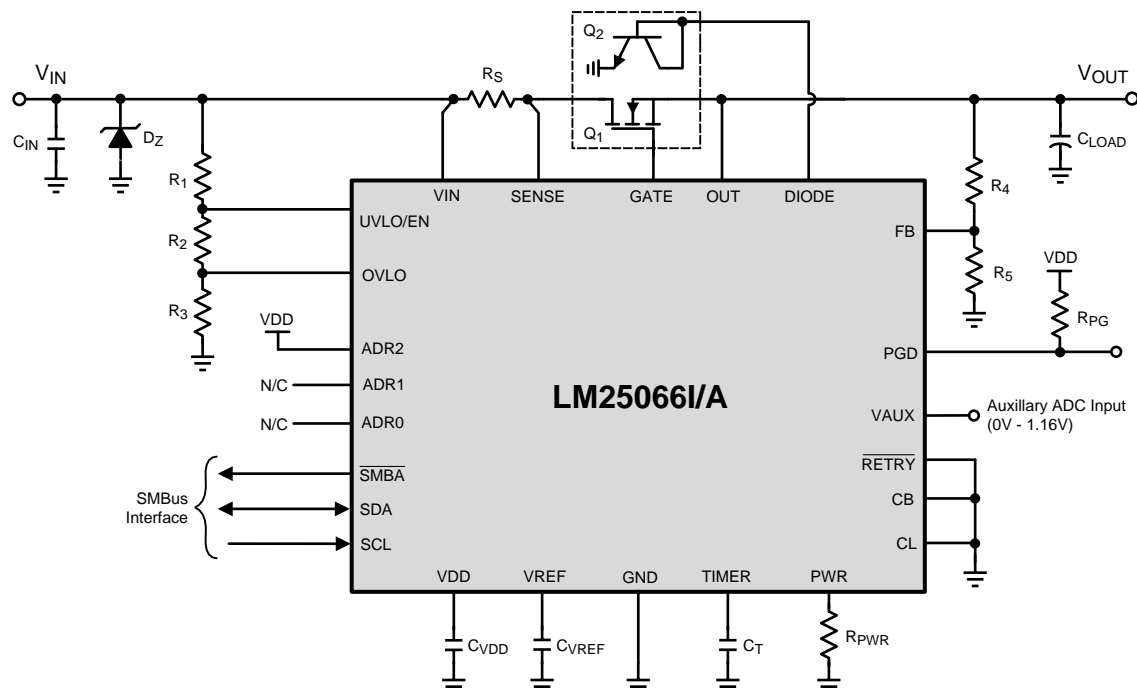
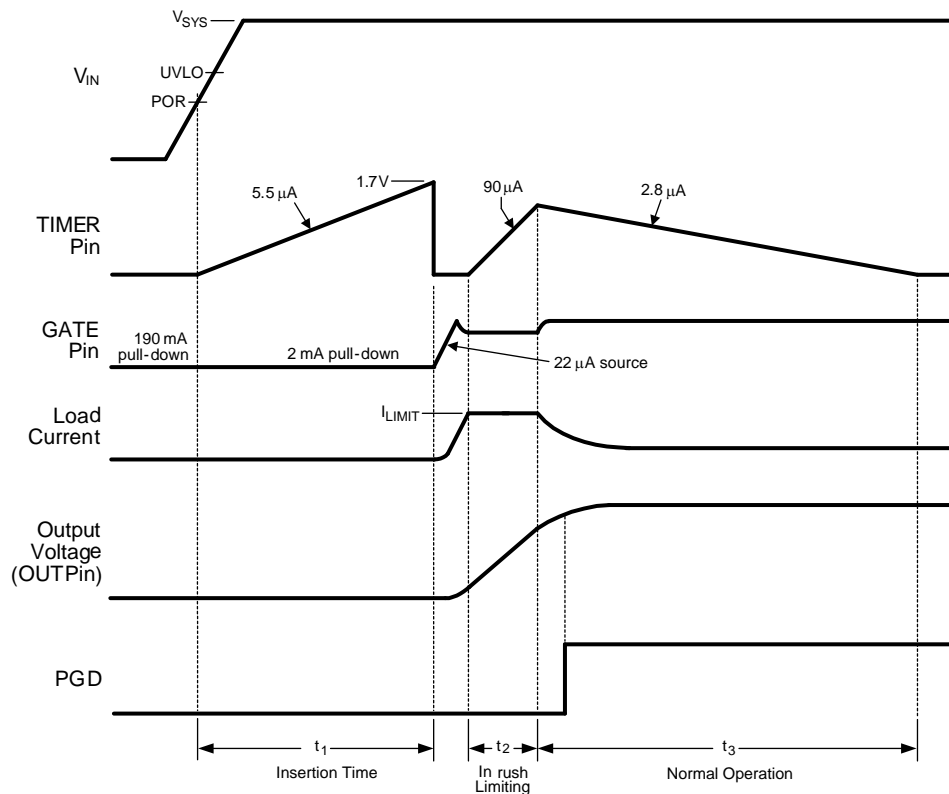

Figure 31. Typical Application Circuit
Figure 32. Power Up Sequence (Current Limit Only)
The V_{IN} operating range of the LM25066I/A is +2.9V to +17V, with transient capability to +24V. Referring to Figure 31 and Figure 32, as the voltage at V_{IN} initially increases, the external N-channel MOSFET (Q_1) is held off by an internal 190 mA pulldown current at the GATE pin. The strong pulldown current at the GATE pin prevents an inadvertent turn-on as the MOSFET’s gate-to-drain (Miller) capacitance is charged. Additionally, the TIMER pin is initially held at ground. When the V_{IN} voltage reaches the POR threshold, the insertion time begins. During the insertion time, the capacitor at the TIMER pin (C_T) is charged by a 5.5 μ A current source and Q_1 is held off by a 2 mA pulldown current at the GATE pin regardless of the input voltage. The insertion time delay allows ringing and transients at V_{IN} to settle before Q_1 is enabled. The insertion time ends when the TIMER pin
As the voltage at the OUT pin increases, the LM25066I/A monitors the drain current and power dissipation of MOSFET Q_1 . Inrush current limiting and/or power limiting circuits actively control the current delivered to the load. During the inrush limiting interval (t_2 in Figure 32), an internal 90 μ A fault timer current source charges C_T . If Q_1 's power dissipation and the input current reduce below their respective limiting thresholds before the TIMER pin reaches 1.7V, the 90 μ A current source is switched off and C_T is discharged by the internal 2.8 μ A current sink (t_3 in Figure 32). The PGD pin switches high when FB exceeds its rising threshold of 1.167V.
A charge pump provides the voltage at the GATE pin to enhance the N-Channel MOSFET's gate. During normal operating conditions (t_3 in Figure 32) the gate of Q_1 is held charged by an internal 22 μA current source. The voltage at the GATE pin (with respect to ground) is limited by an internal 18.8 V zener diode. See the graph "GATE Pin Voltage" shown previously. Since the gate-to-source voltage applied to Q_1 could be as high as 18.8 V during various conditions, a zener diode with the appropriate voltage rating must be added between the GATE and OUT pins if the maximum V_{GS} rating of the selected MOSFET is less than 18.8 V. The external zener diode must have a forward current rating of at least 190 mA. When the system voltage is initially applied, the GATE pin is held low by a 190 mA pulldown current. This helps prevent an inadvertent turn-on of the MOSFET through its drain-gate capacitance as the applied system voltage increases.
During the insertion time (t_1 in Figure 32) the GATE pin is held low by a 2 mA pulldown current. This maintains Q_1 in the off-state until the end of t_1 , regardless of the voltage at VIN or UVLO. Following the insertion time (t_2 in Figure 32), the gate voltage of Q_1 is controlled to keep the current or power dissipation level from exceeding the programmed levels. While in the current or power limiting mode, the TIMER pin capacitor is charging. If the current and power limiting cease before the TIMER pin reaches 1.7V, the TIMER pin capacitor then discharges, and the circuit begins normal operation. If the inrush limiting condition persists such that the TIMER pin reached 1.7V during t_2 , the GATE pin is then pulled low by the 190 mA pulldown current. The GATE pin is then held low until either a power up sequence is initiated ($\overline{\text{RETRY}}$ pin to VDD), or an automatic retry is attempted ($\overline{\text{RETRY}}$ pin to GROUND). See Fault Timer and Restart. If the system input voltage falls below the UVLO threshold or rises above the OVLO threshold, the GATE pin is pulled low by the 2 mA pulldown current to switch off Q_1 .
When the current limit or power limit threshold is reached during turn-on, or as a result of a fault condition, the gate-to-source voltage of Q_1 is controlled to regulate the load current and power dissipation in Q_1 . When either limiting function is active, a $90\ \mu\text{A}$ fault timer current source charges the external capacitor (C_T) at the TIMER pin as shown in Figure 32 (Fault Timeout Period). If the fault condition subsides during the Fault Timeout Period before the TIMER pin reaches 1.7V, the LM25066I/A returns to the normal operating mode and C_T is discharged by the 1.9 mA current sink. If the TIMER pin reaches 1.7V during the Fault Timeout Period, Q_1 is switched off by a 2 mA pulldown current at the GATE pin. The subsequent restart procedure then depends on the selected retry configuration.
A) Insertion Delay - Upon applying the system voltage (V_{SYS}) to the circuit, the external MOSFET (Q_1) is held off during the insertion time (t_1 in Figure 32) to allow ringing and transients at V_{SYS} to settle. Since each backplane's response to a circuit card plug-in is unique, the worst case settling time must be determined for each application. The insertion time starts when VIN reaches the POR threshold, at which time the internal 5.5 μA current source charges C_T from 0V to 1.7V. The required capacitor value is calculated from: